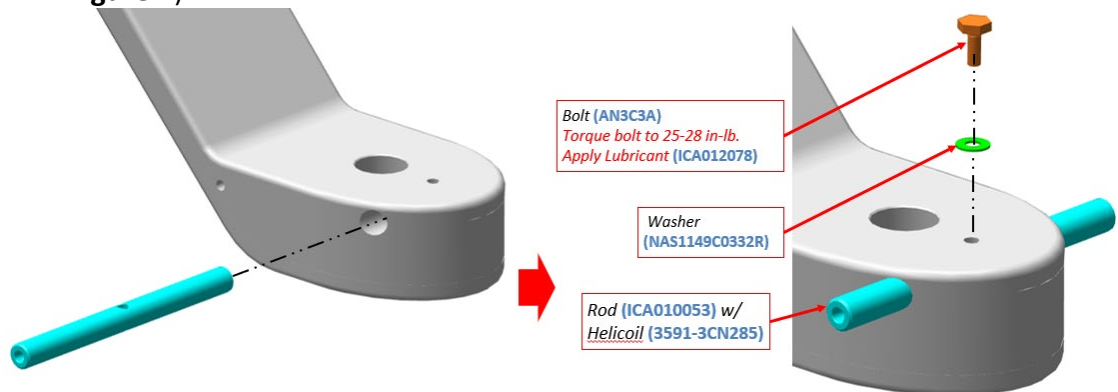

Figure 4. NLG Strut Hardware
- i. Remove the bolt, washer, and rod which engage the doors from the NLG strut. **(Figure 4)**
- viii. Install rod into NLG strut: Using isopropyl alcohol, clean surfaces where lubricant will be applied. Apply lubricant (ICA012078) liberally to threads and shank of bolt. Install rod into NLG strut with bolt and washer. Torque bolt to 25-28 in-lb. (Reference **Figure 4**)
- b. Remove the bolt, washer, and rod which engage the doors from the NLG strut. **(Figure 4)**
- i. Install rod into NLG strut: Using isopropyl alcohol, clean surfaces where lubricant will be applied. Apply lubricant (ICA012078) liberally to threads and shank of bolt. Install rod into NLG strut with bolt and washer. Torque bolt to 25-28 in-lb. (Reference **Figure 4**)